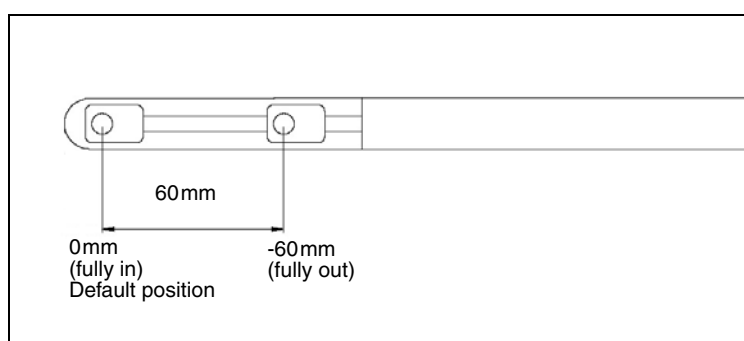

Figure 2. Movement of the crystal assembly inside the transducer head.
- The crystal arrives at its default position (0mm – see Fig 2).